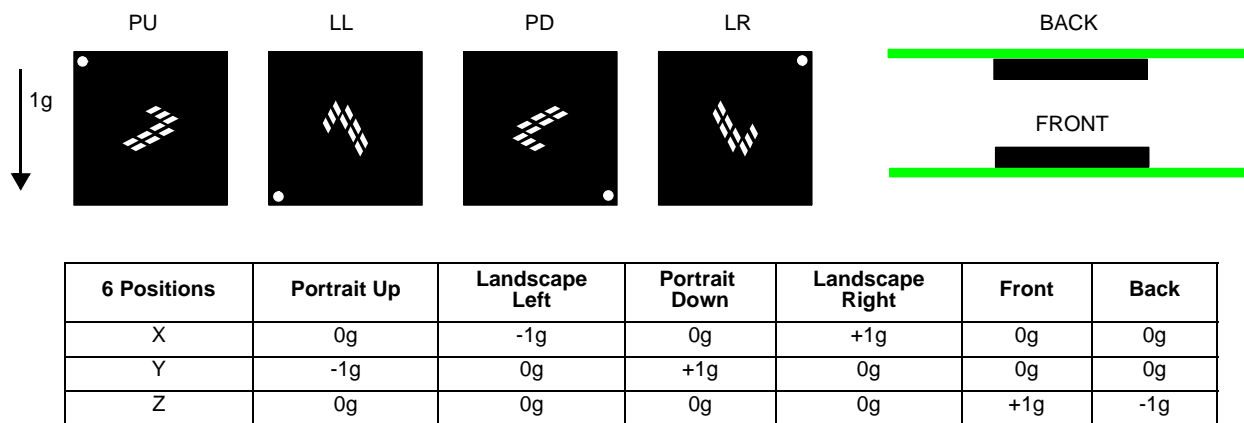

Figure 3. Offset Values on All Six Faces
4. Calculate offsets by taking the average of all four (4) 0g positions (Figure 3), or